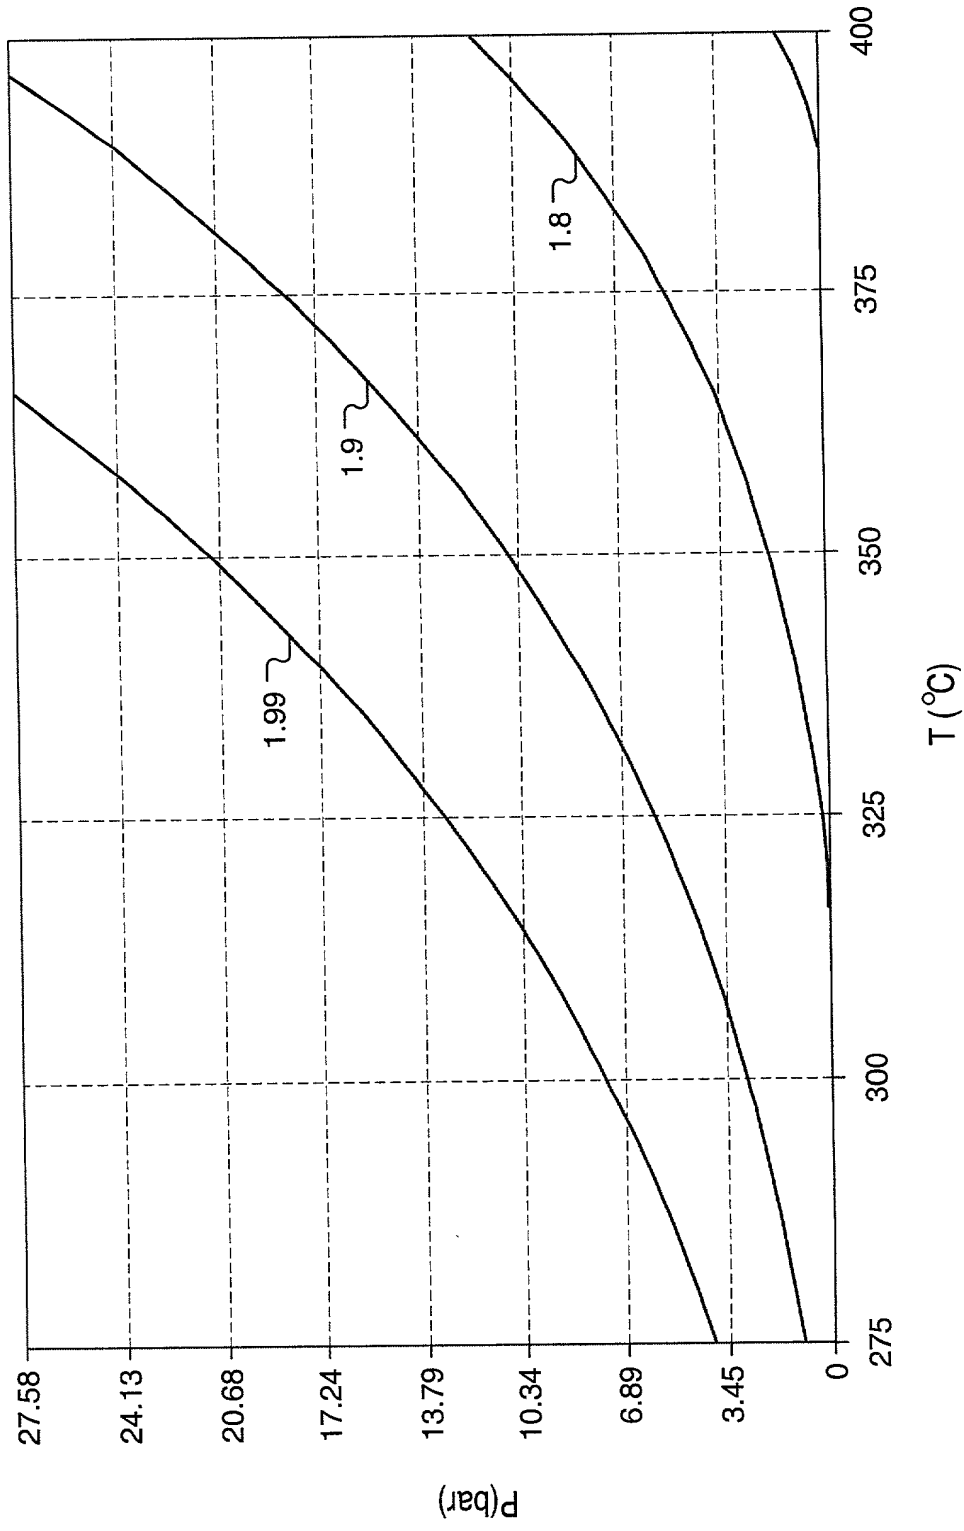

FIG. 96
FIG. 96 is a graph showing the relationship between pressure (P) in bar and temperature (T) in degrees Celsius for a system. The graph includes three curves labeled 1.8, 1.9, and 1.99, representing different conditions or parameters. The pressure (P) is plotted on the vertical axis, ranging from 0 to 27.58 bar. The temperature (T) is plotted on the horizontal axis, ranging from 275 to 400 degrees Celsius. The curves show that pressure increases with temperature, with the rate of increase being more pronounced at higher temperatures.